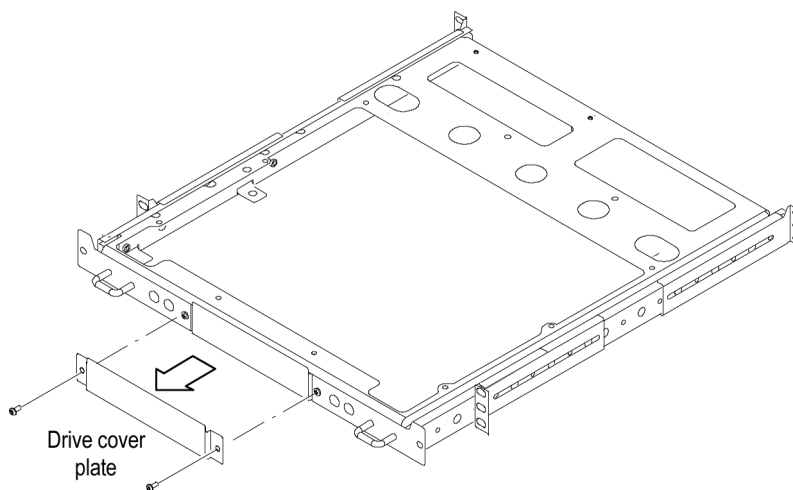

Figure 2: Removal of drive cover plate (configuration 1 and 2 shown)
1. Remove drive cover plate. (See Figure 2.)